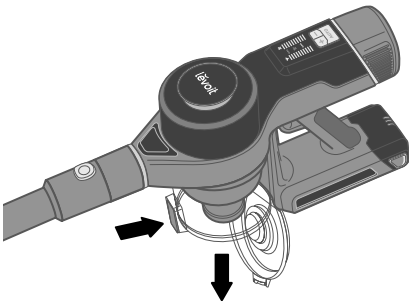

Figure 2.6
2. Hold the dust bin over a trash can and press the Dust Bin Release Button [Figure 2.6]. Use caution, as the door will automatically open when the release button is pushed.